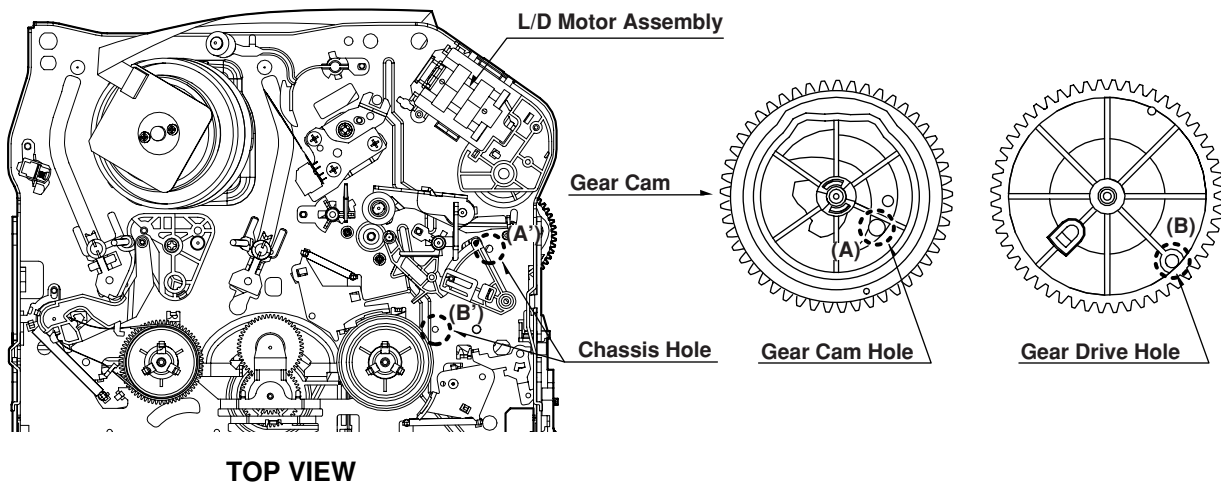

Fig. C-2
- 2) Remove the Top Cover and Plate Assembly Top, visually check if the Gear Cam Hole is aligned with the Chassis Hole as below Fig. C-2.
- 3) IF not, rotate the Shaft of the Loading Motor to either clockwise or counterclockwise until the alignment is as below Fig. C-2.